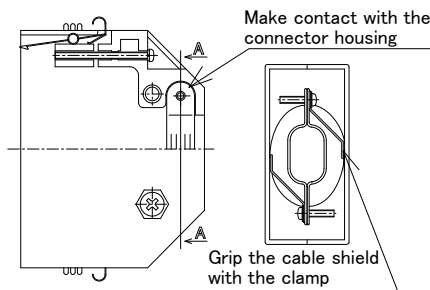
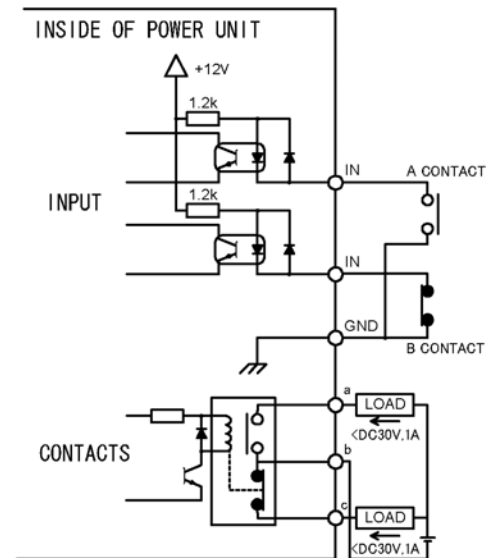
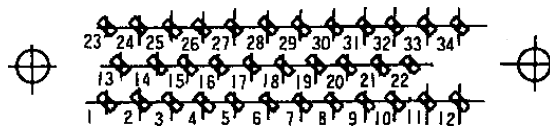

Fig. 6-8 Remote-control Connector
Fig. 6-9 Remote-control Circuit
Fig. 6-10 Arrangement of Remote-control Connector Pins
The controller is provided with remote-control connector for connection with remote operation, alarm signals, etc. Use this connector and a cable with shield as necessary. The shield of the cable should be connect to case of Remote-connector (Refer to Fig. 6-8, Fig. 6-9, Fig. 6-10 and Table 6-2, Table 6-3). For remote-controlled operation, push the REMOTE switch (Fig. 2-1 (15)) to REMOTE lamp ON.
- (Note 3) The pin numbers are shown in Fig. 6-10 "Arrangement of Remote-control Connector Pins".